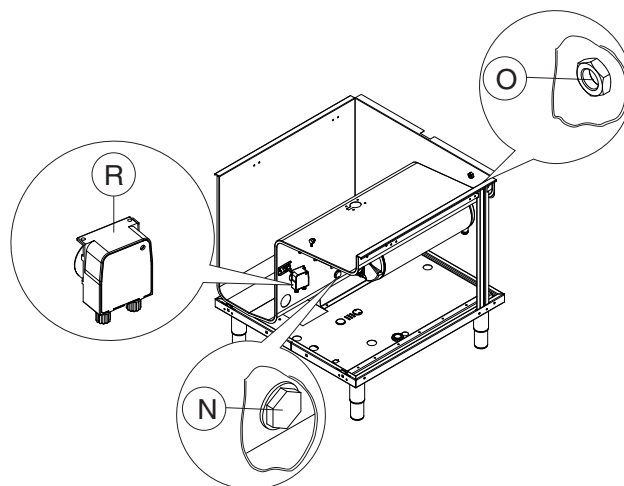

Figure 17 Automatic dispenser arrangement
1. Appliance with incorporated detergent dispenser pump (Figure 17).
Connections for automatic detergent dispenser (Figure 17)